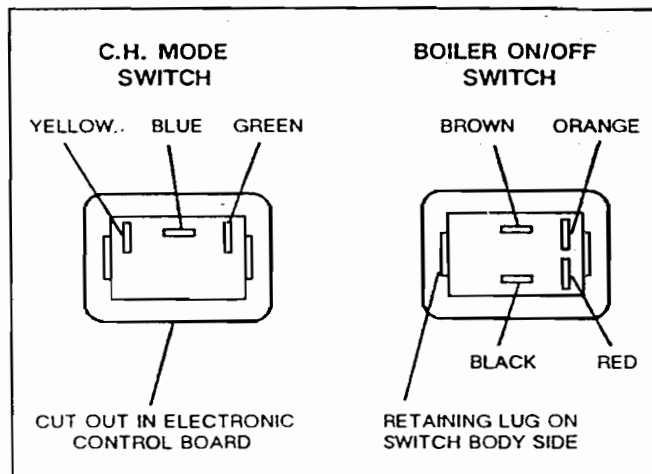

Fig. 27 VIEW FROM REAR OF CONTROL PANEL
(see Fig. 27)
- f. Re-fit wires in correct positions (see Fig. 27)